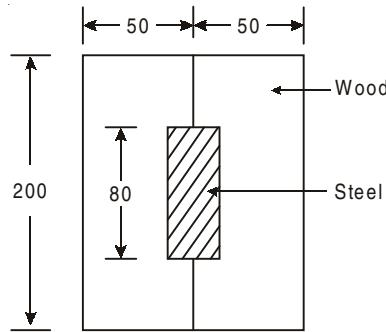

Fig. 3
9. A flitched beam consists of two 50 mm × 200 mm wooden beam and a 12 mm × 80 mm steel plate. The plate is placed centrally between the wooden beams and recessed into each so that, when rigidly joined, the three units form a 100 mm × 200 mm section (Fig. 3). Determine the moment of